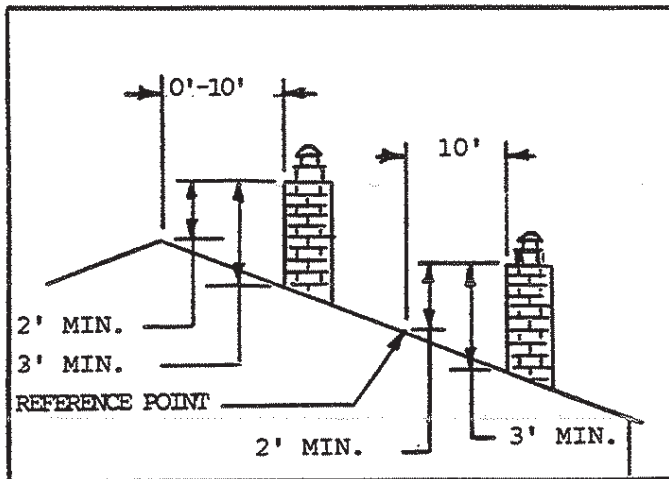

FIGURE 7
WARNING: Major U.S. building codes specify minimum chimney and/or vent height above the roof top. These minimum heights are necessary in the interest of safety. These specifications are summarized in the Ten Foot Rule (See Figure 7). The key points of this rule are:
2. If a horizontal distance from the edge of the vent or chimney to the peak of the roof is more than 10 feet, a vent or chimney height reference point is established that is on the surface of the roof a distance of 10 feet from the edge of the vent or chimney in a horizontal plane. (See Figure 7) The top of the vent or chimney must be at least 2 feet above this reference point, but never less than 3 feet in height above the highest point where it passes through the roof.